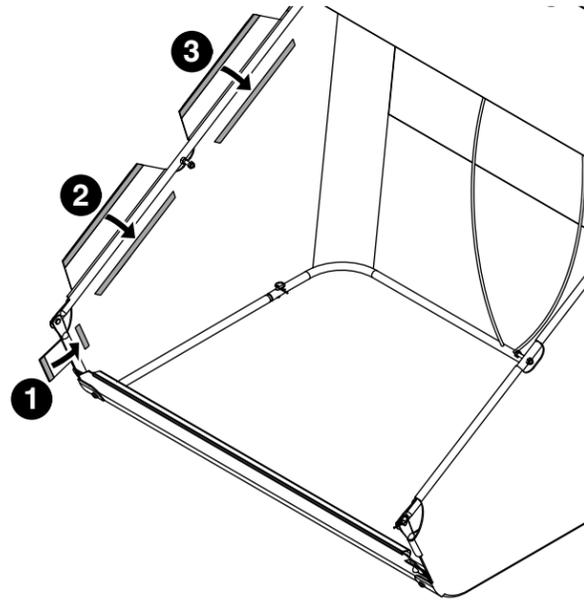

Figure 15
STEP 15 (SEE FIGURE 15): Starting from the bottom of the bag, secure the hopper bag to the bag frame using the velcro straps.